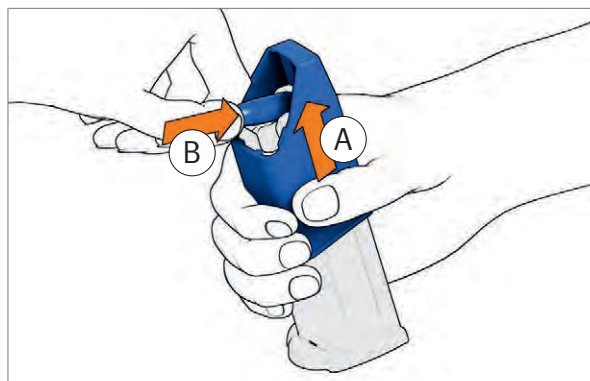

Fig. 43: Pushing cartridge to the rear
4. Lift loading aid (*Fig. 43*).
5. Push cartridge all the way to the rear (*Fig. 43*).